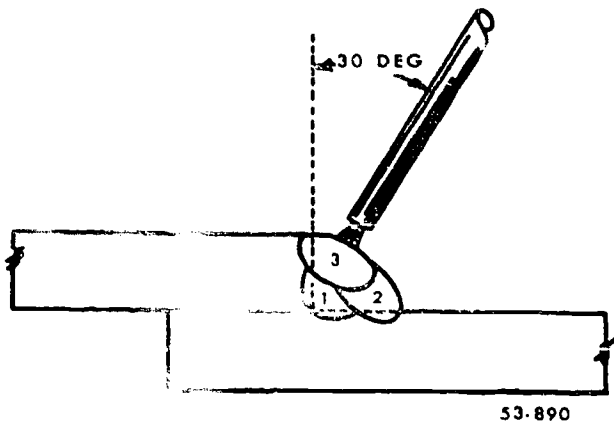

Figure 3-36. Electrode position for lap joints.
**Lap Joints.** To make lap joints, tack-weld two overlapping plates in place and deposit a fillet weld in the horizontal position along the joint. The procedure for making this fillet weld is similar to that for making a fillet weld in tee joints. Hold the electrode to form an angle approximately  $30^\circ$  from the vertical and tilt it  $15^\circ$  in the direction of welding. The position of the electrode in relation to the plates is shown in figure 3-36. The weaving motion is the same as that for tee joints, except that the pause at the edge of the top plate is long enough to insure good fusion and no undercutting. You can make satisfactory lap joints on 1/2-inch plate or heavier by depositing a sequence of string beads, as shown in figure 3-36. To make lap joints on plates of different thicknesses, hold the electrode at an angle between  $20^\circ$  and  $30^\circ$  from the vertical. Do not overheat or undercut the thinner plate edge. The arc must be controlled to wash the molten metal to the edge of this plate.